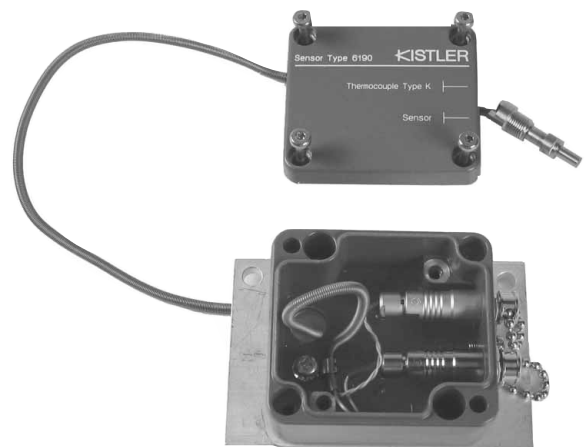

Fig. 1: Shortening the cable
Intermediate cable lengths (e.g. 0,6 m cable length) can be realised by the user by pulling the excess cable length into the connection tool and securing it. A simple Allan key (2,5 mm) and a Phillips screw driver are required (see Fig. 1).